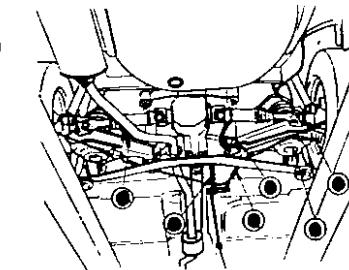

Fig. H.6 Coil spring removal points.
3. Remove the drive shaft flange nuts at the wheel side (Fig. H.6.) and the bump rubber securing nuts.